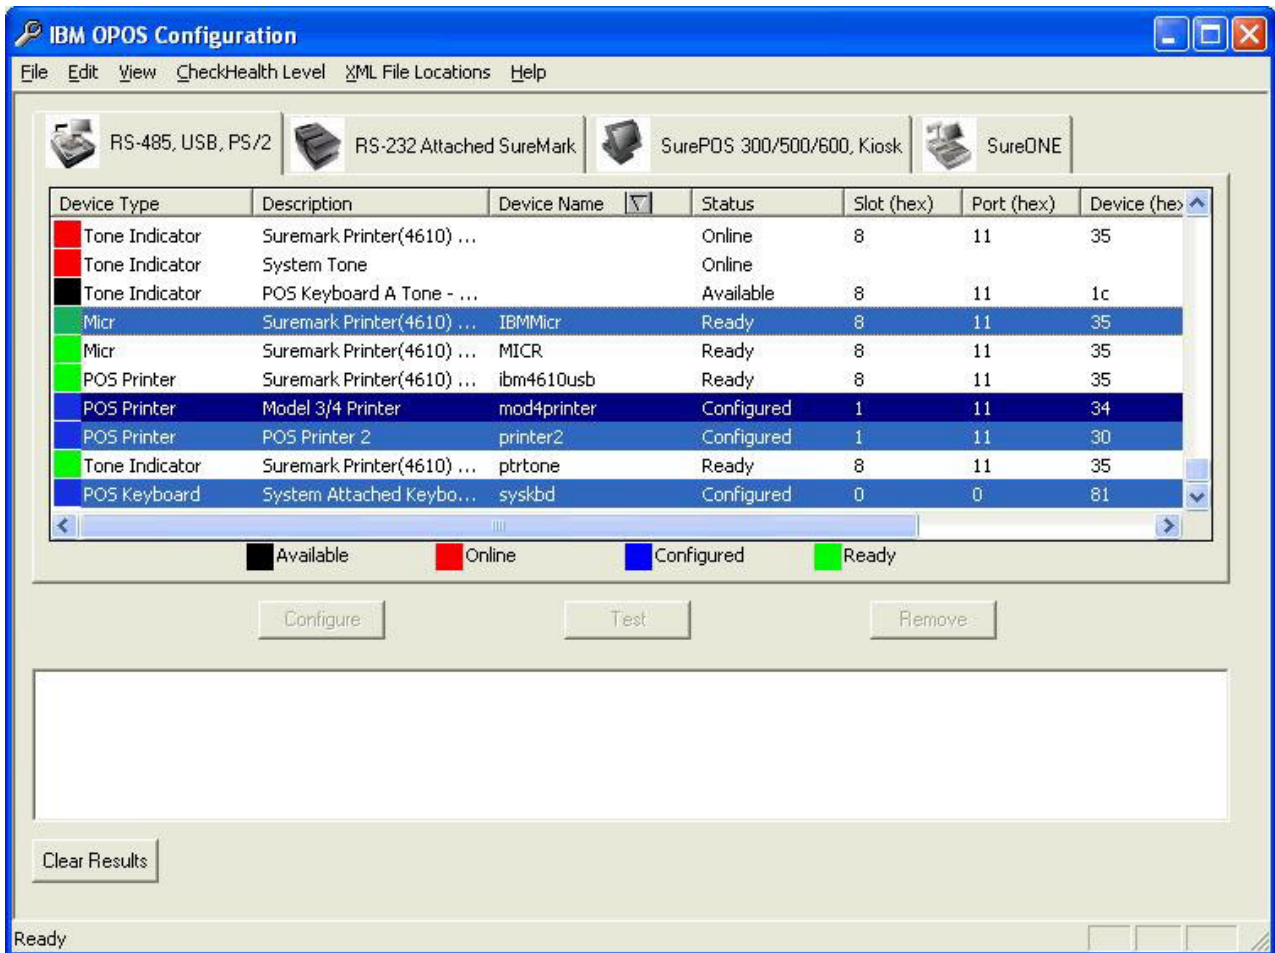

Figure 9. Selecting devices to export
1. Select the devices (on all the tabs) that you want to export. Use the **Shift** and **Ctrl** keys to select more than one. (See Figure 9 on page 40.)